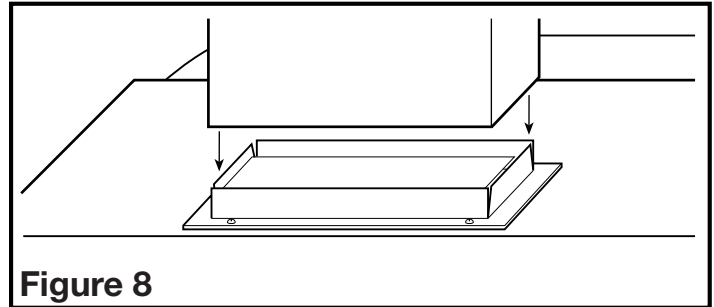

Figure 8
1. Connect the ducting to the hood's duct collar. Ensure duct joints and exterior penetrations are sealed with caulk or other similar material to create an air-tight path to minimize building heat loss or gain and to reduce the potential for condensation. Place/wrap insulation around duct and/or fan in order to minimize possible condensation buildup within the duct, as well as building heat loss or gain (Figure 8).